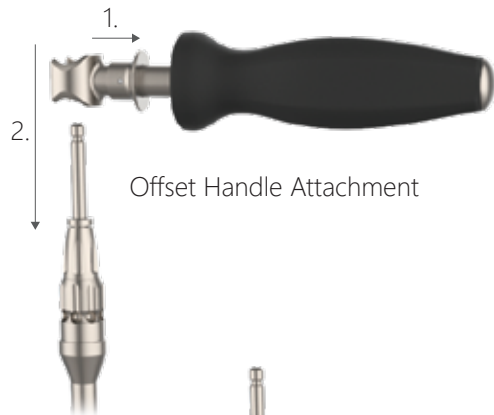

Figure 9a
- The Fixed Angle Driver comes with an optional Offset Handle if additional support is desired. To attach, pull the quick connect collar back (1.) and slide the Offset Handle onto the Outer Shaft (2.) (Figure 9a).